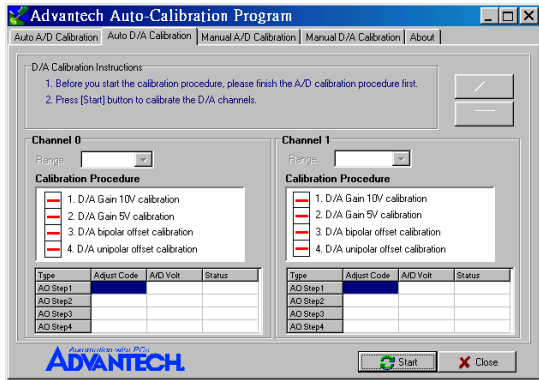

Figure 5-11: Range Selection in D/A Calibration
Step 9: Click the *Auto D/A Calibration* tab to show the D/A channel auto calibration panel. Please finish the A/D calibration procedure first before you start the D/A calibration procedure. There are two D/A channels in PCI-1716; select the output range for each channel and then press the start button to calibrate D/A channels (Fig. 5-11).